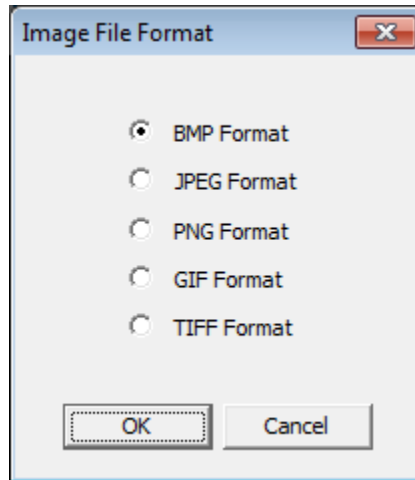

Figure 43: Image File Format options
- **Save Image:** Click this button to save the plots. The Image File Format options will display (Figure 43).